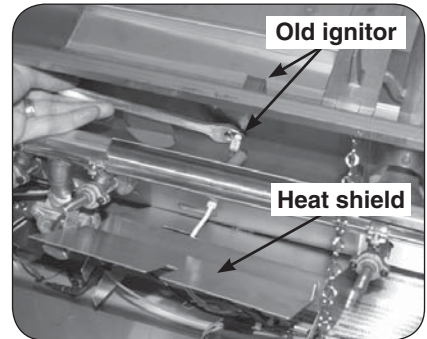
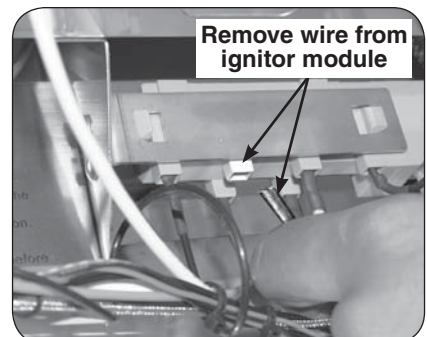

Fig. 2-4 Remove heat shield and old ignitor
Fig. 2-5 Remove old ignitor wire
8. Lift the heat shield up and inward slightly to clear the diagonal slots hooked over the oven fire wall then pull away from the manifold (see Fig. 2-4).
9. Remove the existing ignitor wire by first sliding the rubber sleeve back off the ignitor, then pulling the wire to detach from the ignitor. Next remove the ignitor nut on the control panel side of the fire wall with a $\frac{9}{16}$ open-end wrench (see Fig. 2-4) and remove the ignitor box from inside the oven. Remove the rubber sleeve from the wire and pull the wire through the heat shield and the insulating tube in the manifold fire wall. Disconnect the other end of the ignitor wire from the ignitor module (see Fig. 2-5).
2. Attach the other end of the new ignitor wire (the insulated end) to any male connector on the back of the ignitor module (reference Fig. 2-5).